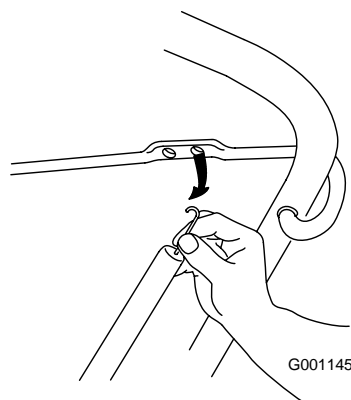

Figure 22
1. Unhook the end of the control cable spring from the control bar (Figure 22).